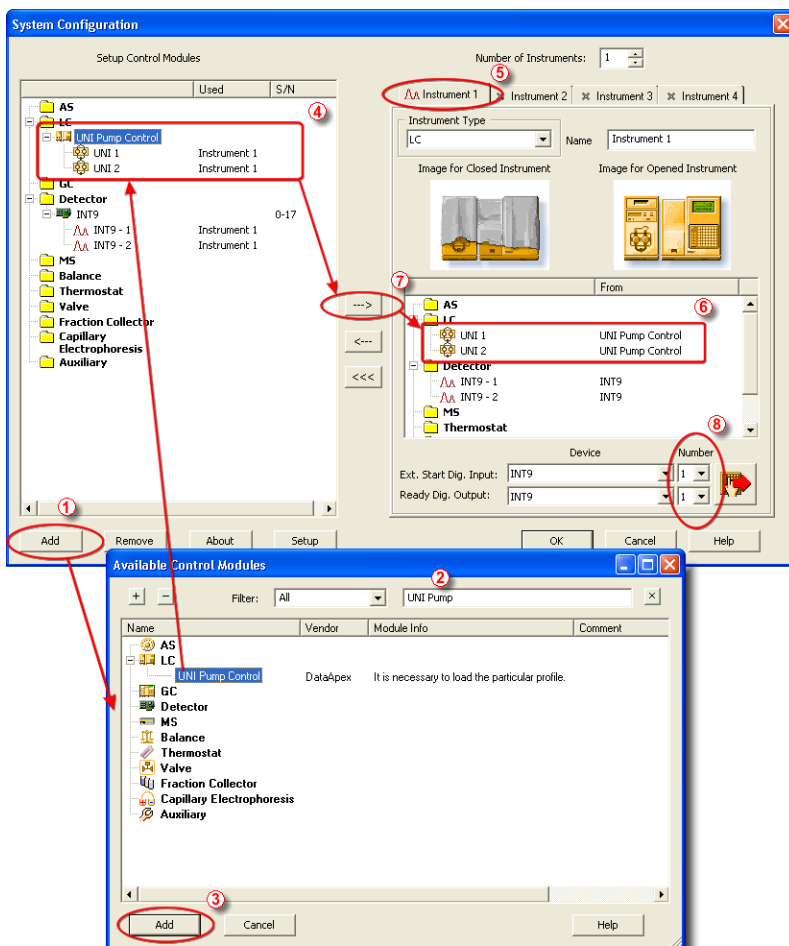

Fig 2: How to add Omniseparo pumps
- Press the **Add** button ① (see **Fig 2** on pg 6.) to invoke the **Available Control Modules** dialog.
- You can specify the searching filter ② to simplify the finding of the driver.
- Select the **UNI Pump Control** item and press the **Add** ③ button.